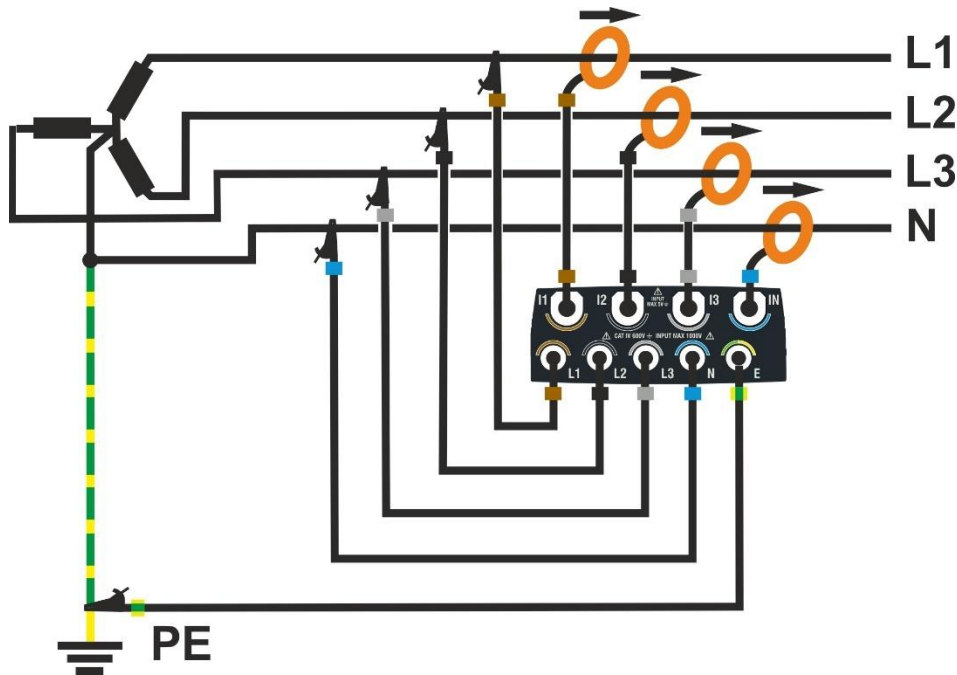

Fig. 65: Connecting the instrument to a Three-Phases 4 Wires system
2. Connect the voltage cables to the L1, L2, L3, N and PE conductors as shown in Fig. 65. **Check that the display shows "1-2-3" for the correct cyclic direction of the phases** (see § 5.1.1)